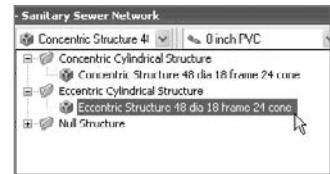

Figure 13.8
11. Back in the drawing, locate the Network Layout Tools dialog. (If this dialog has disappeared, select any pipe in the network, right-click, and choose Edit Network.) Use the structure pull-down list to switch from Concentric Structure to Eccentric Structure (Figure 13.8).